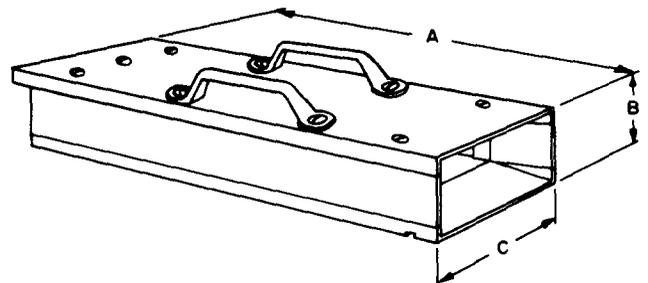

Fig. 9—586A or B Guard and Holder Tools
2.11 **586A and B:** The 586A and B guard and holder tools (Fig. 9) consist of a wooden box which is open at one end and fitted with strap loops. For more information, see Table A.